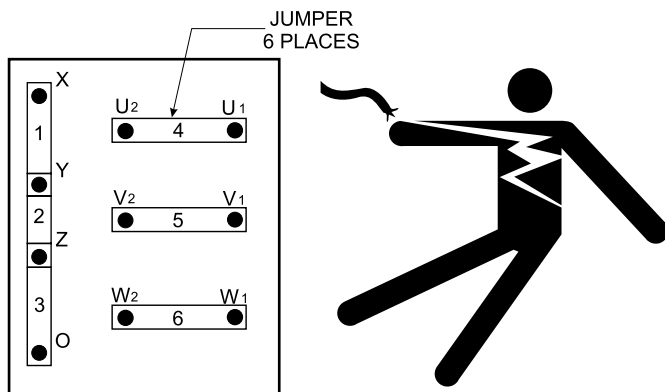

Figure 12. Voltage Change-Over Board
A wide range of voltages are available to supply voltage for many different applications. Voltages are selected by applying jumpers (6) to the **voltage change-over board** (Figure 12). To obtain some of the voltages as listed in Table 7 (see below) will require a fine adjustment using the **voltage regulator (VR) control knob** located on the control panel.
The **voltage change-over board** (Figure 12) is located on the control box, behind the generator control panel. This board has been provided for ease of voltage selection.